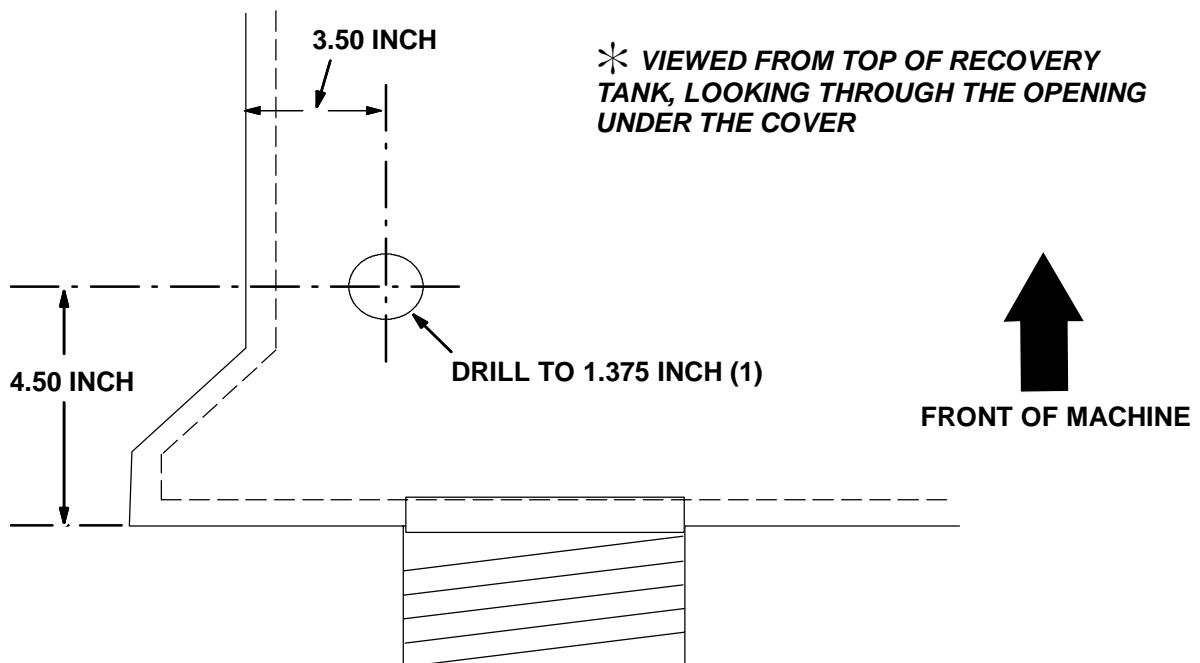

FIG. 6 - Bulkhead Fitting Dimension In Bottom Of Recovery Tank
10. Use the dimensions in FIG. 6 to mark and drill a new bulkhead fitting mount hole in the bottom of the recovery tank. Use a 1.375 inch hole saw. Remove the drain cap assembly for better access. Install a new bulkhead fitting (1) in the newly drilled mount hole. (Refer to FIG. 6)